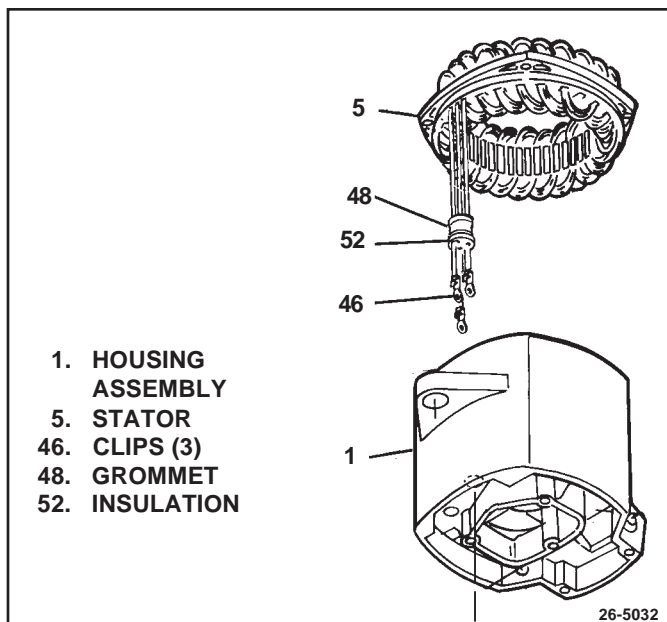

Figure 24. Removing Stator
housing (1) apart carefully. Guide stator leads and grommet (48) through hole as stator is pulled from housing. It may be necessary to push on grommet with a blunt instrument to unseat it from the housing. (See Fig. 24)